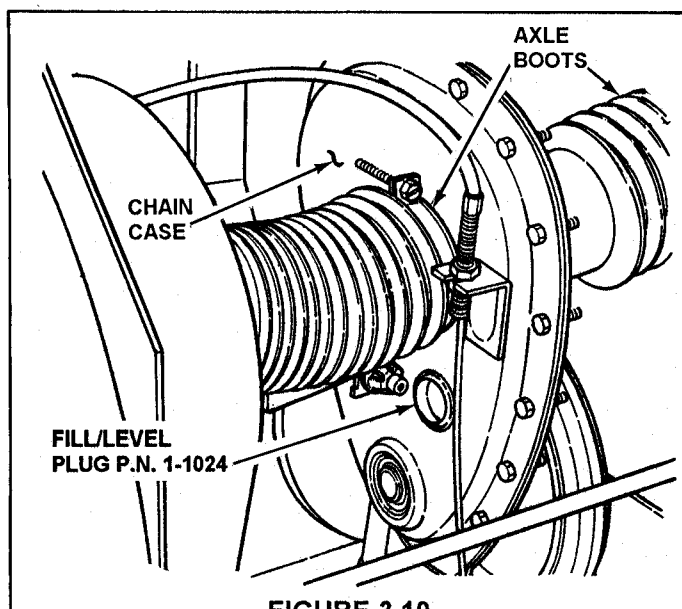

FIGURE 3.10
- a. Check fill/level plug for damage. If signs of wear or cracks are visible, replace plug with new plug, Part Number 1-1024. See Figure 3.10.
- b. To check lubricant in chain case, remove fill/level plug and look for lubricant on the internal components of the chain case. If no lubricant is visible, add SNAPPER "OO" grease as needed. See Figure 3.10.
Check axle boots for signs of wear or cracks. If cracks or wear are visible, contact a SNAPPER dealer for service. Refer to Figure 3.10.